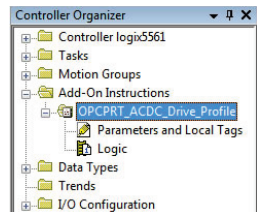

Figure 62: AC/DC Drive Profile Add-On Instruction
- 2) Right click on “Add-On Instructions” in the controller organizer view and select “Import Add-On Instruction”. Browse and import the AC/DC drive profile add-on instruction. Refer to Figure 62.